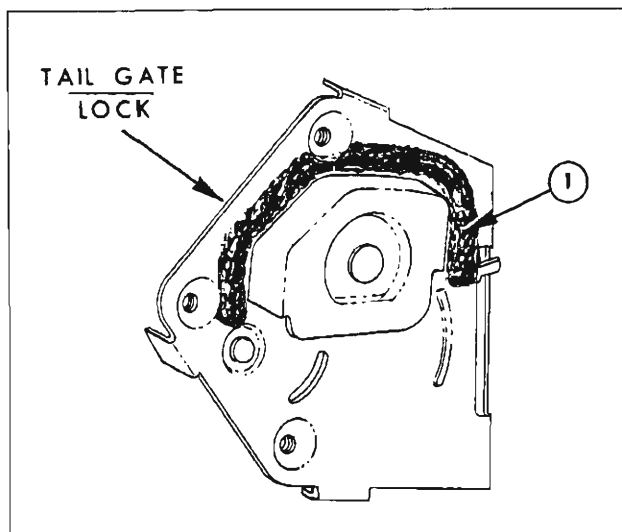

Fig. 95—Tail Gate Lock Sealing
3. Disengage spring clip and detach lock remote control connecting rod from lock remote control (fig. 95).
To attach lock connecting rod to remote control lever, first, loosen connecting rod adjustment locking bolt at remote control (fig. 95); then, install rod to lever and tighten locking bolt.
NOTE: To engage end of handle push rod into hole in remote control lever, it may be necessary to raise window in tail gate to gain access to lever. Adjust remote control upward until tabs on handle push rod (fig. 95) just contact remote control lever.
- Disengage clips securing lock connecting rods to remote control (fig. 95) and detach connecting rods from remote control.
- Adjust remote control assembly up or down until tabs on push rod (fig. 95) just contact remote control lever.
ing bolt (fig. 95); then, install rods to levers and tighten locking bolt.
IMPORTANT: If installing a new remote control assembly, remove cotter key (fig. 95) after adjustment, to free locking lever.
6. Lower window to approximately $\frac{1}{2}$ inch up from full down position; then adjust remote control locking lever adjusting screw (fig. 95) so that lever is just contacting window lower sash channel frame. Check operation of remote control inside handle—handle should remain locked until window is lowered to within $\frac{1}{4}$ inch of the full down position.